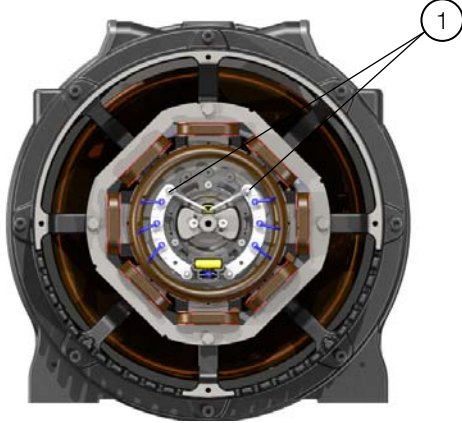

Figure 12.5: Connection of the power supply cables of the main rotor
1. Withdraw the main rotor power supply cables, connected to the diodes wheel, according to Figure 12.5;
Key of Figure 12.5: